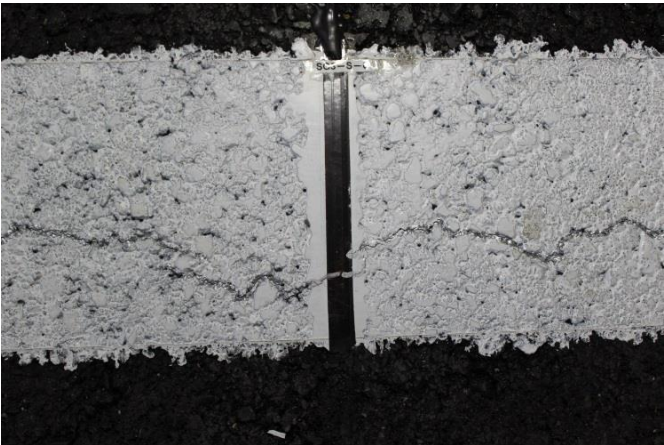

Figure 4. Third surface gauge SG3-S-6
- Third top surface gauge SG3-S-6, as shown in Figure 4.